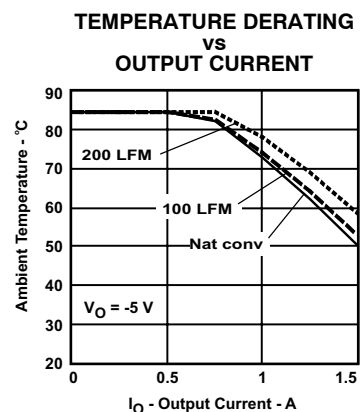
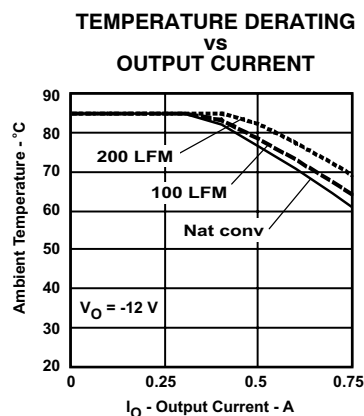

Figure 4.
Figure 5.
- (2) The temperature derating curves represent the conditions at which internal components are at or below the manufacturer's maximum operating temperatures. Derating limits apply to modules soldered directly to a 100 mm x 100 mm, double-sided PCB with 2 oz. copper. For surface mount packages, multiple vias (plated through holes) are required to add thermal paths to the power pins. Please refer to the mechanical specification for more information. Applies to Figure 4, Figure 5, and Figure 6.